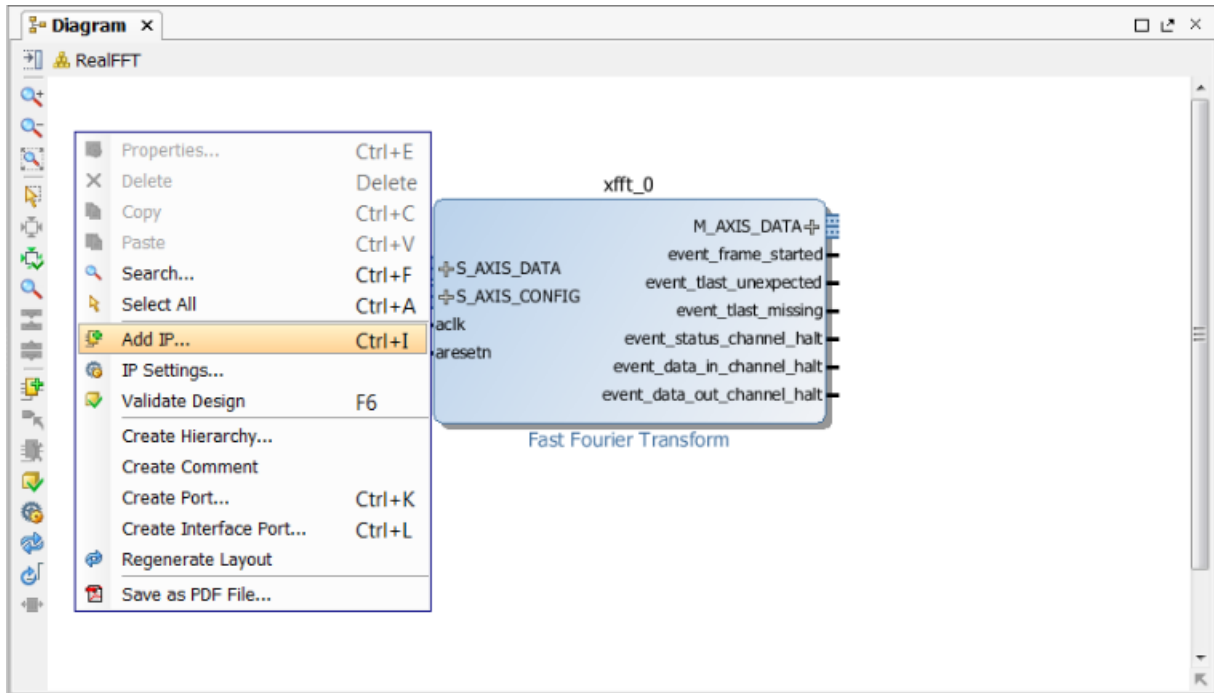

Figure 9-15: Add IP Blocks
- Right-click in any space in the canvas and select **Add IP** (Figure 9-15).